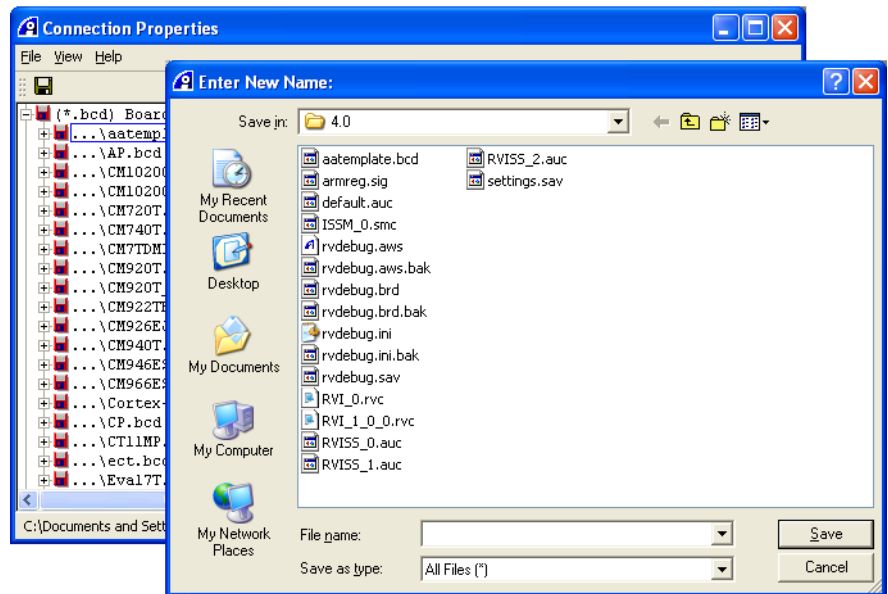

Figure 5-5 Saving an existing BCD file with a new name
3. Select **Save As...** from the context menu to open the Enter New Name dialog box. Figure 5-5 shows an example. The location displayed in this dialog box is the directory you last selected in the dialog box.